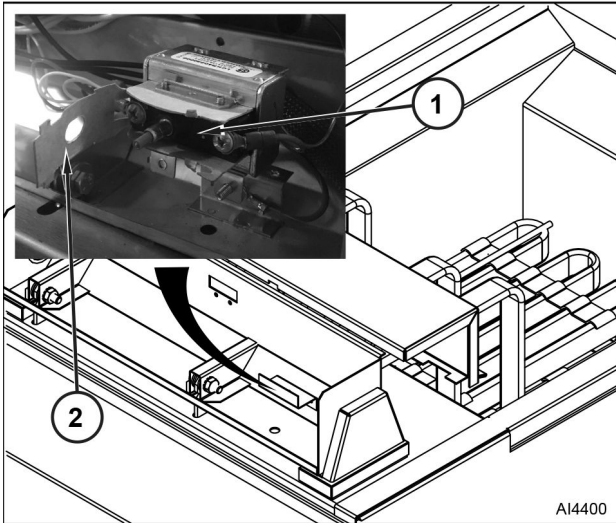

Fig. 20
4. Remove high limit switch (1, Fig. 20) from mounting bracket.